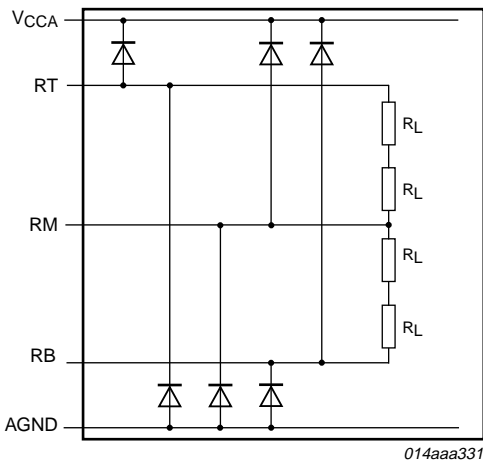

Fig 12. RB, RM and RT
• Corrections made to Figure 12 .